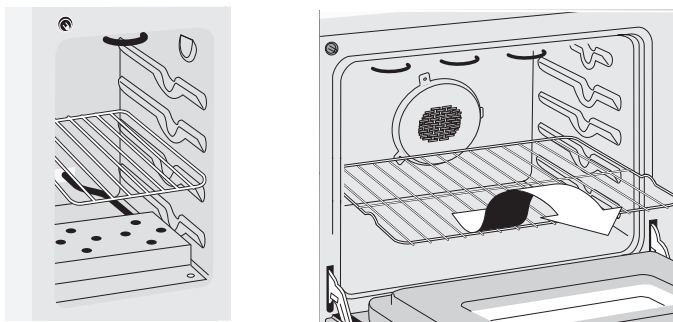

Figure 4
**To remove an oven rack,** pull the rack forward until it stops. Lift up front of rack and slide out (Figure 4).